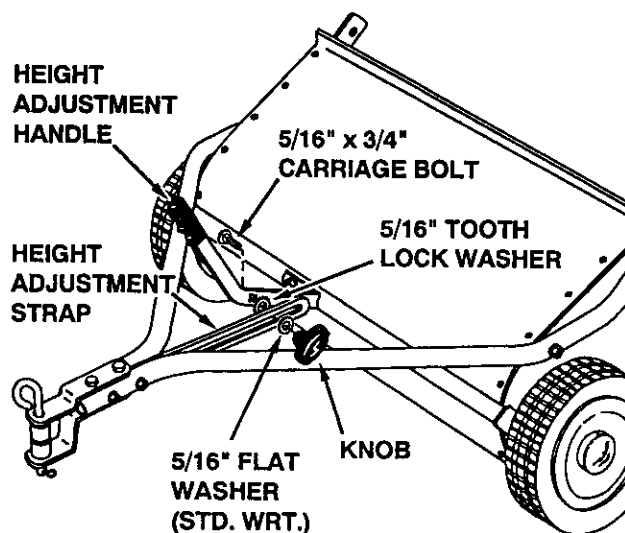

FIGURE 6
- Place the 5/16" tooth-lock washer between the height adjustment handle and the height adjustment strap. Insert the 5/16" x 3/4" carriage bolt through the handle, the tooth-lock washer and the strap. Assemble the 5/16" Std. Wrt. washer and the plastic knob onto the end of the bolt and **tighten**. See figure 6.